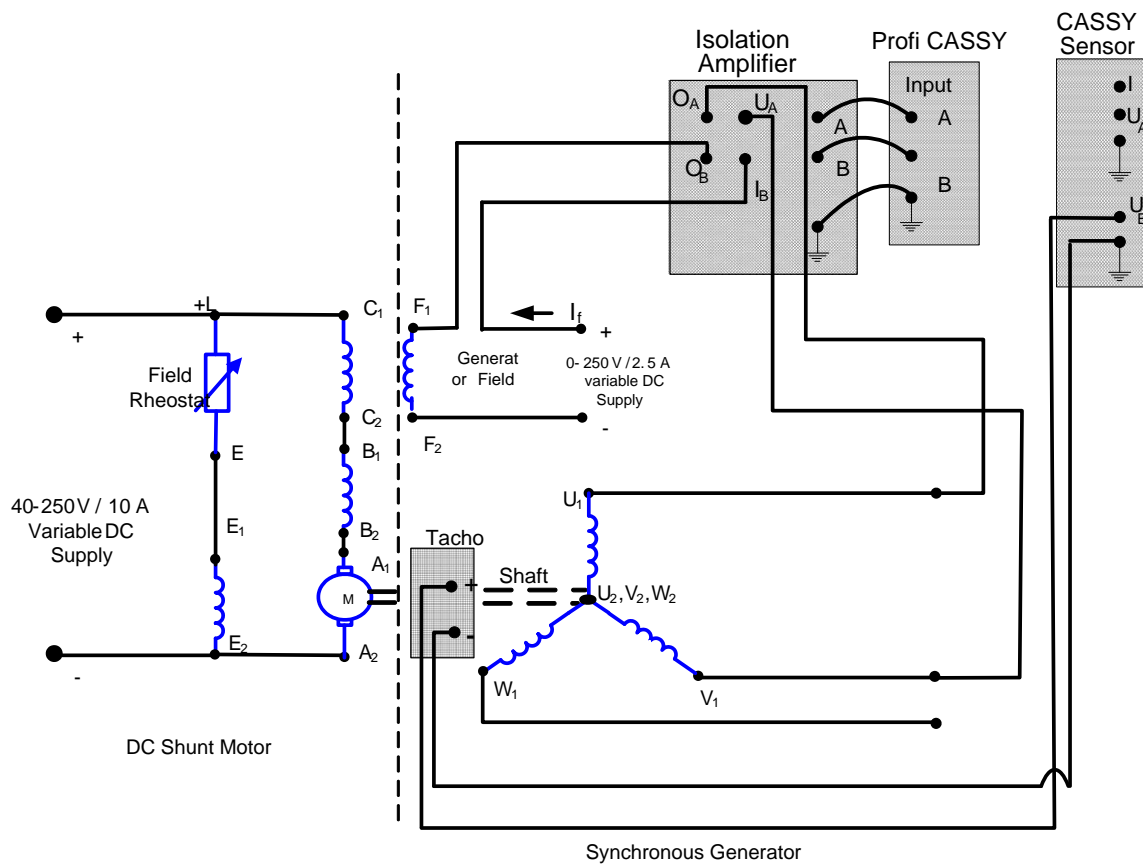

Fig. 1: Connection diagram for the open circuit test of synchronous generator
1. Connect the circuit given in Fig. 1 for running the open circuit test.